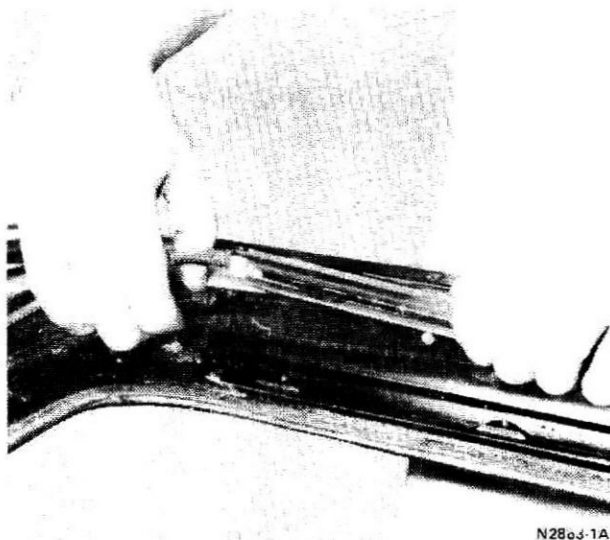

FIG. 8 Cable Removal
2. Sight down the opening to determine the parallel relationship of the forward edge of the sliding panel with the forward edge of the opening in the roof panel and note the variation, see Fig. 8.